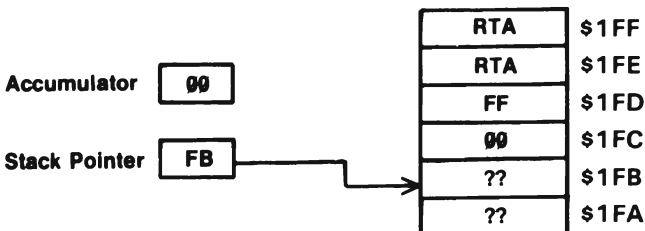

Figure 12.2 Pushing items on to the stack.
Figure 12.2 shows exactly what happens as this program is executed. The Stack Pointer (SP) at the start contains \$FD and points to the next free location in the stack. The first two stack locations \$FF and \$FE hold the two byte return address (RTA) to which the machine code will eventually pass control. (This may be the address of the next BASIC instruction if a call to machine code has been made.) The subsequent stack locations are at present undefined and are therefore represented as ??.